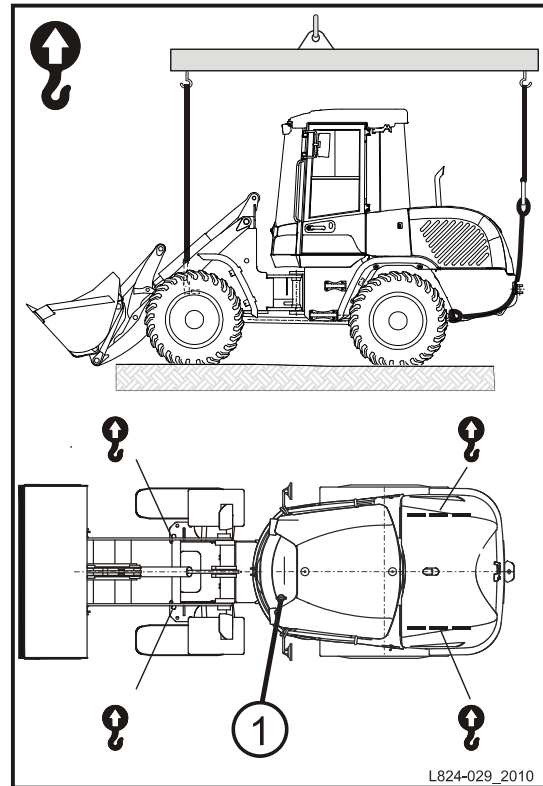

Fig. 29 Loading the machine using a crane
- Attach the loader to the hoisting appliance at the specified, marked points (fig. 29) in the correct manner.